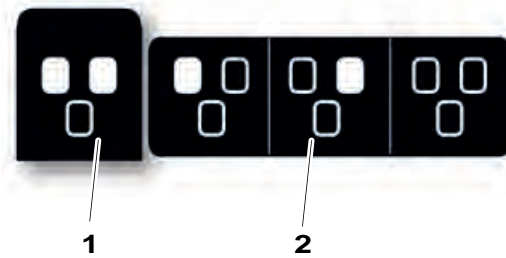

Fig. 4-6 AEC field selection
When selecting the *AEC field* button, a pop-up-window with the different AEC fields according to Fig. 4-6 *AEC field selection*, will appear. The *AEC fields* are activated by a selection in the pop-up window to the right (2). All activated *AEC fields* will be shown in the left picture (1). *AEC fields* are deactivated by selecting them again in the pop-up window (2).